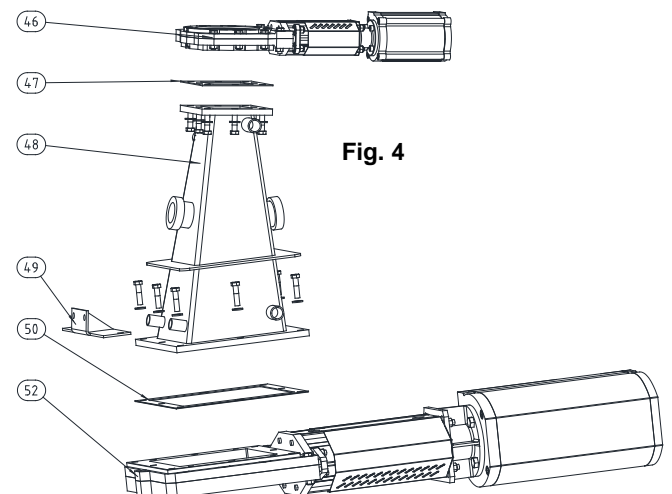

Fig. 4
When in parts, connect the valves to the reject tank by using the supplied bolts and gaskets (47, 50), fig. 4. Make sure that the JTV valve (52) is connected in the bottom of the tank (48) with the seat side upwards towards the reject tank (48), at the same time, connect the support bracket (49) with the same screws. Connect the RKO valve (46), with the square side downwards towards the tank. Above assembling would be easiest done on a pallet on the floor. When assembled, the Junc Trap is ready for installation, according section B, below a flange in a vertical pipe. See figure 2.